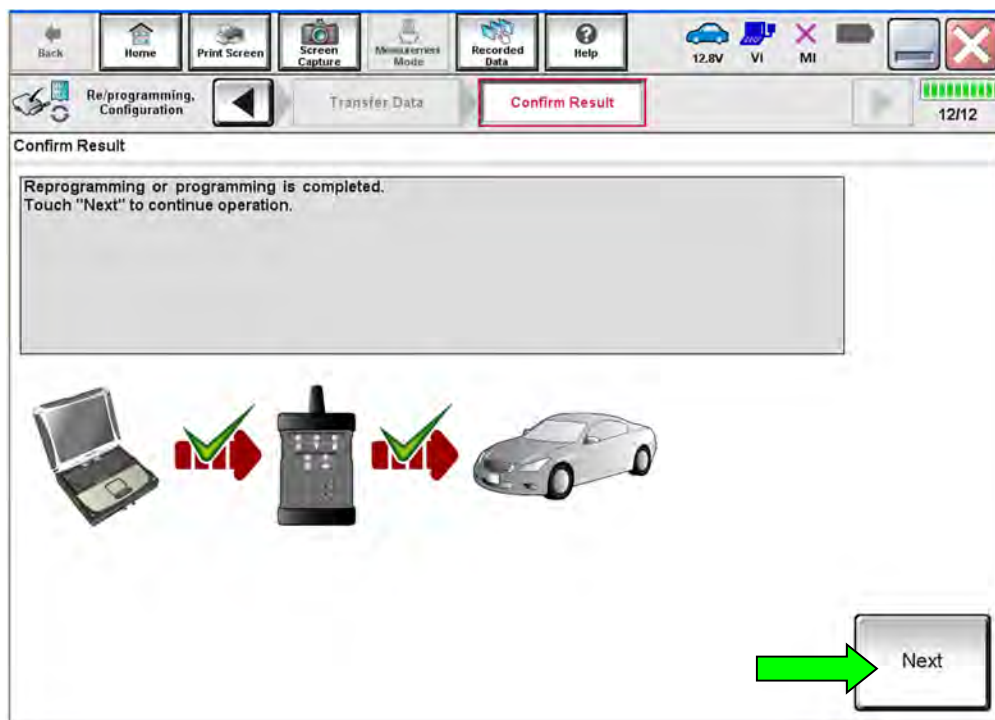

Figure 20
34. When the screen in Figure 20 displays, the reprogramming is complete.
- HINT:** If the screen in Figure 20 does not display (indicating that reprogramming did not complete), refer to **Laser/Radar Recovery** on the next page.